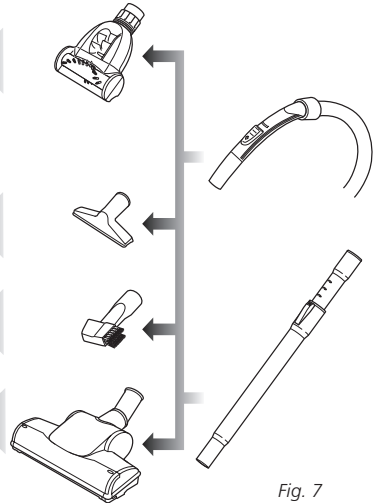

Fig. 7
- 1 Firmly push the desired accessory onto the end of the flexible hose handle or the telescopic tube to clean hard to reach places. (Fig. 7)